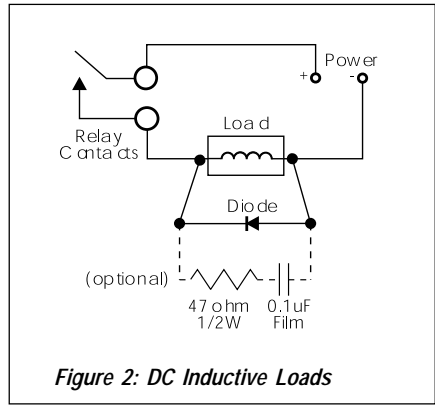

Figure 2: DC Inductive Loads
When switching inductive loads, maximum relay life and transient EMI suppression is achieved using external protection (see Figures 2 & 3). Place all protection devices directly across the load and minimize all lead lengths. For AC inductive loads, place a properly-rated MOV across the load in parallel with a series RC snubber. Use a 0.01 to 0.1µF pulse film capacitor (foil polypropylene recommended) of sufficient voltage, and a 47Ω, 1/2W carbon resistor. For DC inductive loads, place a diode across the load (PRV > DC supply, 1N4006 recommended) with (+) to cathode and (-) to anode (the RC snubber is an optional enhancement).
- Note: External relay contact protection is required for use with inductive loads. See relay protection section (Fig 2 & 3).*